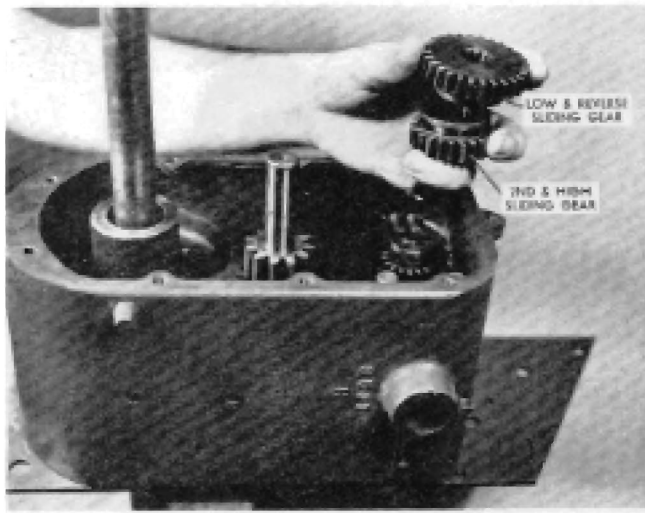

FIGURE 11
11. Before installing transmission case make sure that it is positioned properly in relation to the right side cover. This will place the shift lever tower to the front and toward you, as in Figure 11.
13. Position the high and second sliding gear (the smaller one) on the lower shift fork. Position the low and reverse (the larger one) on the upper shift fork. When properly installed the shift fork grooves will be adjacent to each other. See Figure 11.